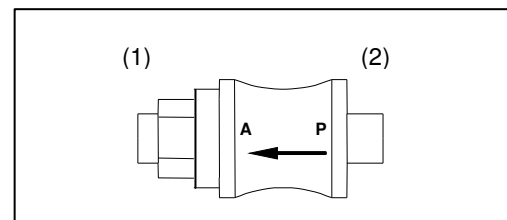

Fig. 5 Manual slide valve in forward direction
- ▶ Move manual slide valve in forward direction (P → A) (**Fig. 5**).